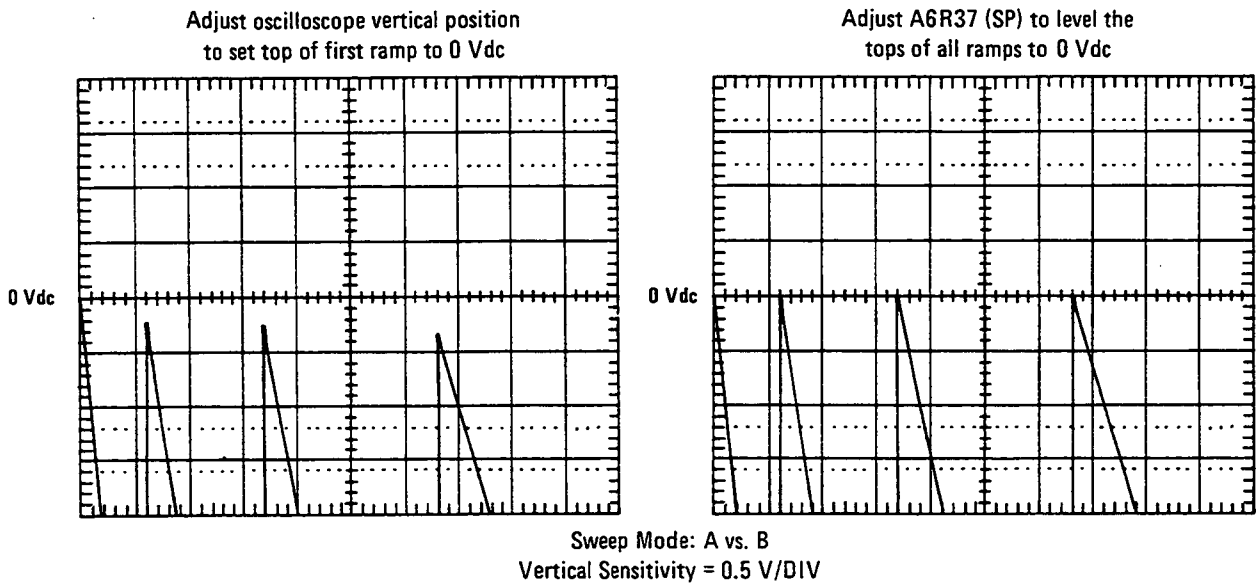

Figure 5-4. Sweep Control Adjustment Waveforms
21. Adjust the oscilloscope vertical position control to set the top of the first full 0 to  $-10$  volt sweep ramp on the centerline as shown in Figure 5-4.
22. Adjust A6R37 (SP) to bring the tops of the remaining 0 to -10 volt sweep ramps to the center graticule as shown in Figure 5-4.